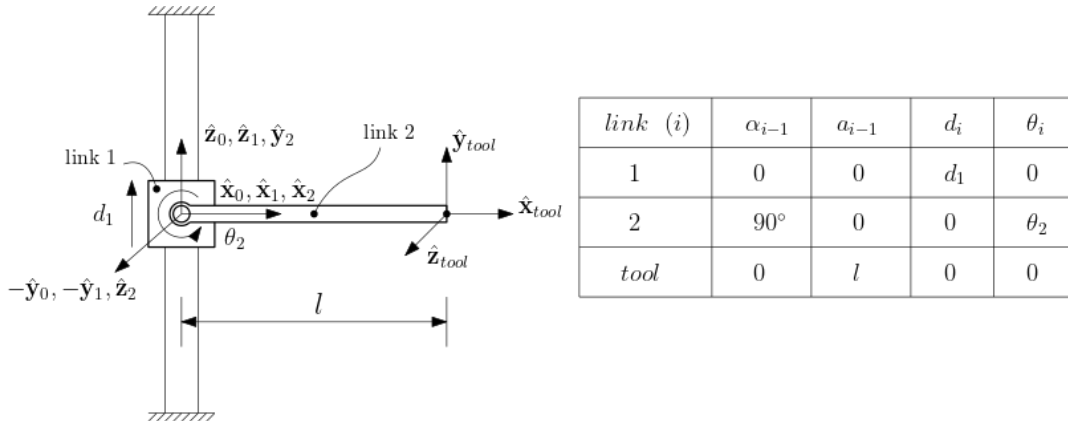

Figure 3: PR robot for Qn. 3
3. (16 marks) Find the dynamic equations of motion of the PR robot shown in Figure 3 *using Lagrangian method*. The first link is a solid block of mass  $m_1$  and the second link is a thin rod with mass  $m_2$ . Center of mass of both links are at the center of the links. Force  $f_1$  and torque  $\tau_2$  are applied at the joints 1 and 2 respectively.